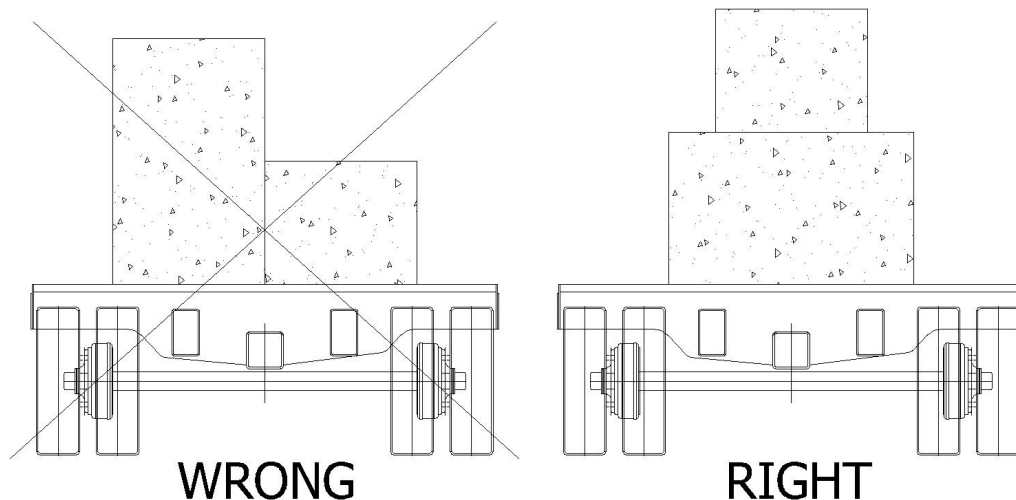

Figure 9
- ◆ Crosswise weights should be equally distributed (**FIGURE 9**). A heavy load should not be placed on one side. This will overload suspension and tyres on that side. Place load so that weight will be equal on rear tyres, eliminating possible twisting of the frame and overloading of axle housing and wheel bearings.